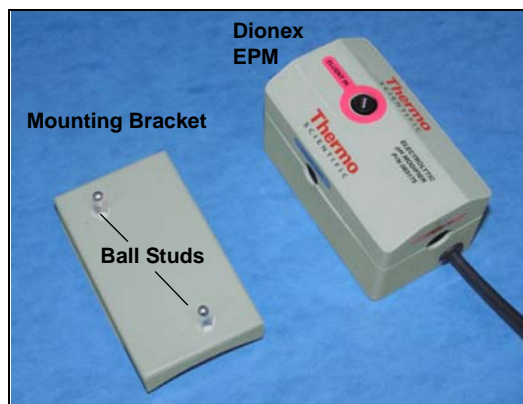

Figure 66. Dionex EPM and Mounting Bracket
2. Push the Dionex EPM onto the ball studs on the mounting bracket (see Figure 66).